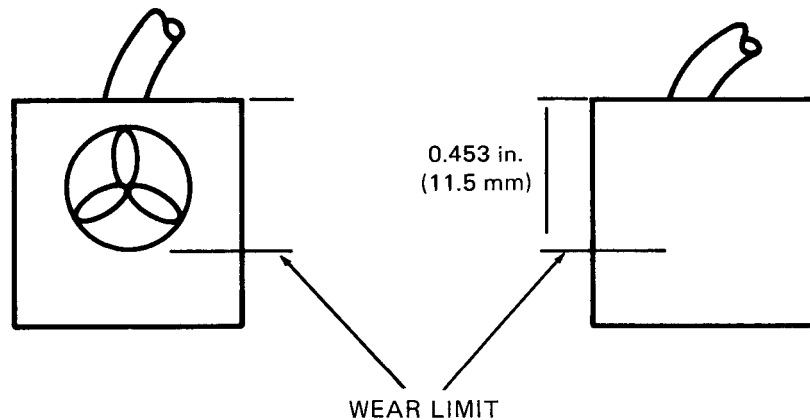

Figure 7-9. Brush Wear Limit.
- (1) Wipe all metallic parts with a clean lint-free cloth that has been slightly dampened with solvent.
- (2) Inspect all parts for damaged threads, cracks, distortion, or other visible damage.
- (3) Inspect armature commutator. If commutator is dirty or discolored, clean with number 00 or 000 sandpaper. Use compressed air to blow sand out from between commutator segments.
- (4) Clean around brushes and holders by wiping off all brush dust and dirt. Refer to Figure 7-9. If brushes are shorter than 0.453 in (11.5 mm) they should be replaced.